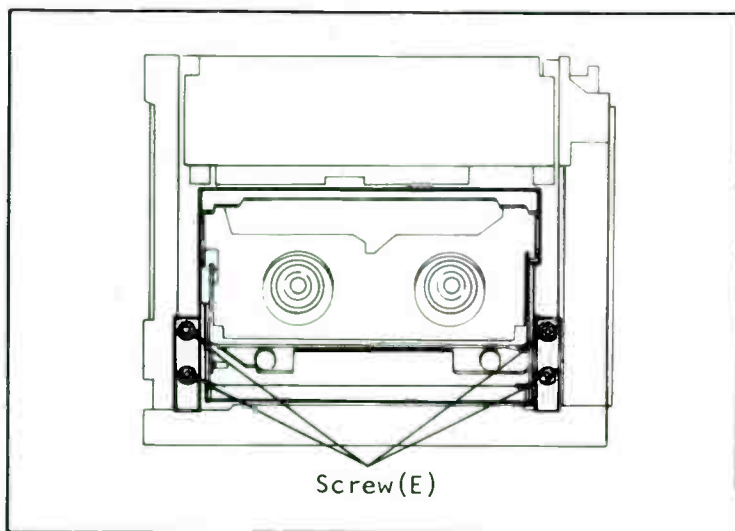
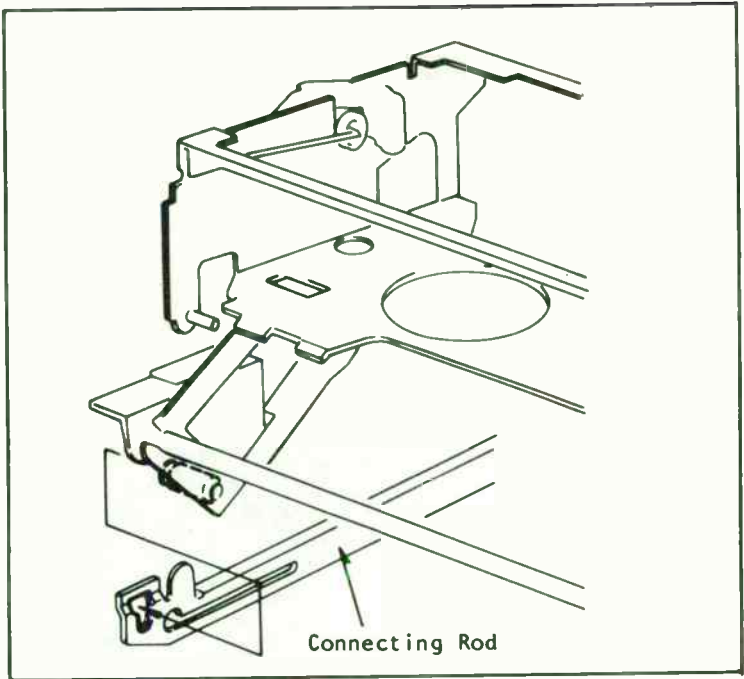

Fig. 9-9. Cassette holder removal (courtesy of General Electric).
Fig. 9-10. Installation of connecting rod (courtesy of General Electric).
Remove 4 red screws (E) and the cassette holder unit as shown in (Fig. 9-9). Notes: when this part was removed or replaced, the cassette holder adjustment should be performed. When reinstalling, ensure the pin located at lower left portion is engaged with the connecting rod. Refer to Fig. 9-10.